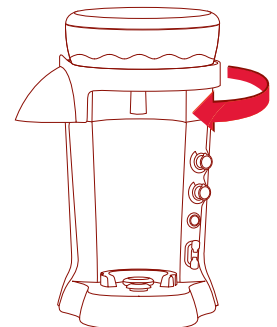

Figure 4
6. Move Ice Chute to the side. *Figure 4*